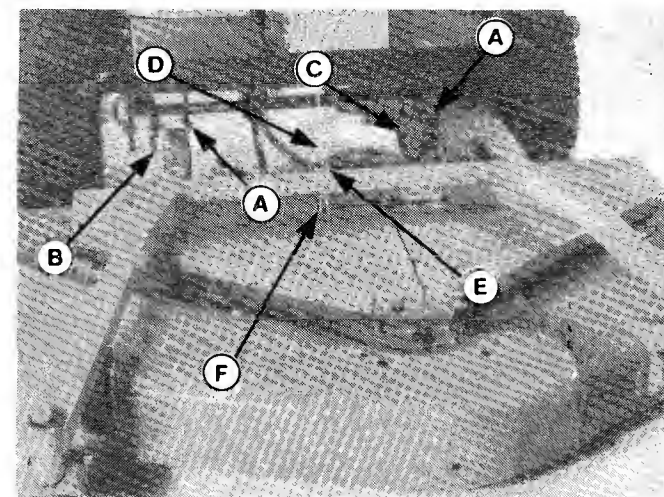

Figure 10.
2. Remove the two pins (A, figure 10) and clips (B). Slip a 2" x 4" board under rear edge of mower to make pin removal easier.
3. Connect mower to rider with two pins (A, figure 10) and clips (B). Slip a 2" x 4" board under rear edge of deck to make pin installation easier.
5. Place the lift chain (F, figure 10) and lift cable clevis into the bracket (E). Insert pin through bracket, clevis and chain. Then, secure with the clip.